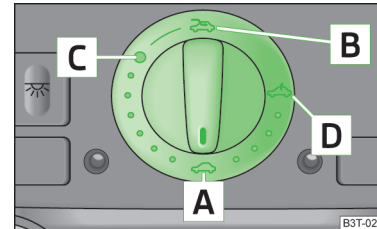

Fig. 45
- If the battery has been disconnected and reconnected, it is possible that the sliding/tilting roof does not operate correctly. In this case, turn the rotary switch to the switch position **A** » Fig. 45 on page 62 and push forward for about 10 seconds.
- Turn the switch to position **C** » Fig. 45.
The sliding/tilting roof is fitted with a force limiter. If an obstacle (e.g. ice) prevents closing, the sliding/tilting roof stops and opens completely. The sliding/tilting roof can be closed completely without the force limiter by pushing the switch in position **A** » Fig. 45 forwards until the sliding/tilting roof is completely closed » **I**.